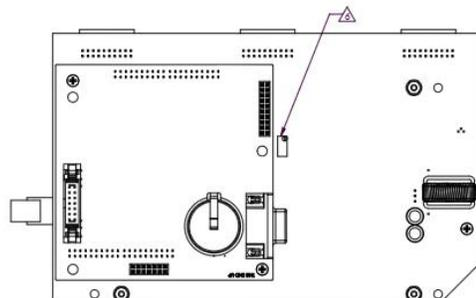

Figure 3. AK600 Controller (Location of Contrast Knob)
2. If the Display Touchscreen appears black or if LCD characters are hard to read, then use a small driver or plastic tweaker screw driver to adjust the contrast knob (See Figure 3) on the AK200 Interface board. Turning the contrast knob fully counterclockwise will turn the Display Touchscreen black. Adjust the contrast knob clockwise to set the appearance of the LCD characters.